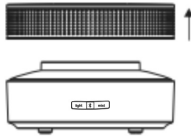

Fig. 2-1
1. Remove the top cover of the appliance (Fig. 2-1)